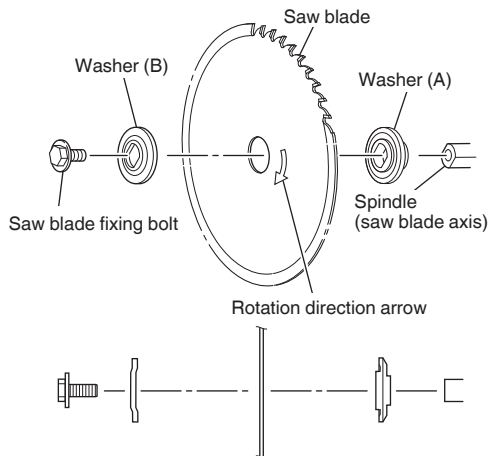

Fig. 13
4. Thoroughly remove any chips attached to washer (A), washer (B) and the saw blade fixing bolt.
5. Install each part as shown in Fig. 13. Attach washer (A) and washer (B) to each side of the spindle, paying attention to the orientation. Attach the saw blade so that the rotation direction of the saw blade matches the rotation direction arrow on the gear case.